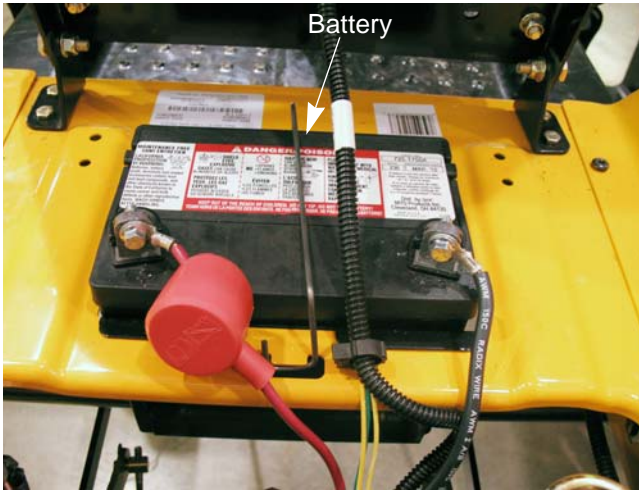

Figure 4.24
1. Remove the battery and battery box. See Figure 4.24.